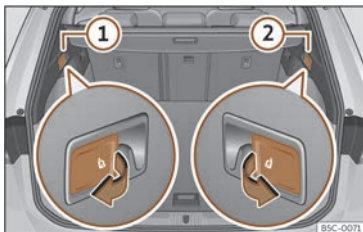

Fig. 98 In the luggage compartment: levers to unlock the rear backrest.
- Pull the remote release lever of the left >>> **Fig. 98** ① or right ② parts of the backrest in the direction of the arrow. The released part of the rear seat backrest is folded automatically down and forwards.